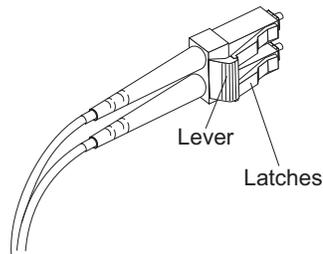

Figure 27. LC-LC fibre-channel cable lever and latches
1. On the end of the LC-LC cable that connects into the SFP module or host bus adapter, press down and hold the lever to release the latches, as shown in Figure 27.